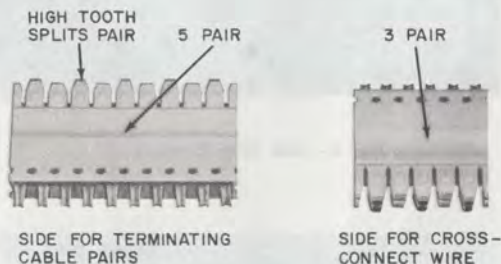

Fig. 3—88-Type Connecting Block
2.04 The 88-type connecting block (Fig. 3) consists of a flame retardant, plastic-molded housing equipped with double-ended, quick-clip metal connectors. When mounted on the wiring block, the bottom end makes connection with the cable conductors in the index strip, and the top end provides connections for cross-connect wires. They are available in 3- and 5-pair blocks. The clips for terminating the cables are designed to terminate